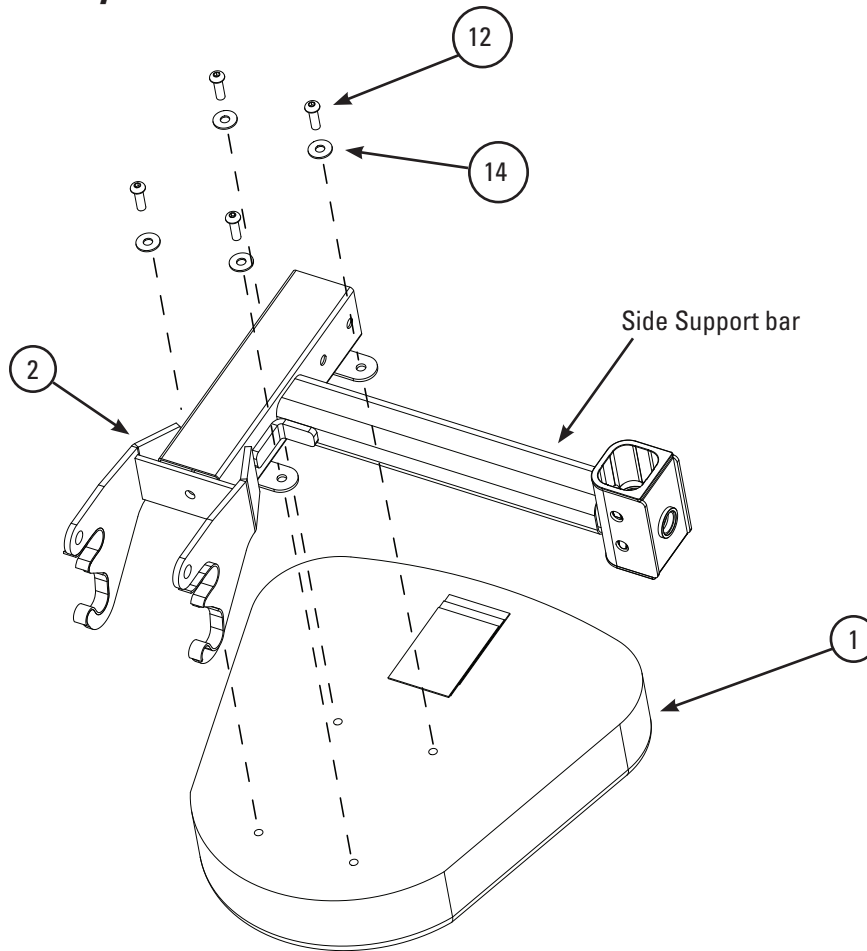

Figure 1
- 1-1 Lay the Seat Bottom (1) on the floor, seat cushion down, with the narrow back of the seat toward you.
- 1-2 Position the Side Support (2) so that the bracket is toward the back of the Seat Bottom and the Side Support bar extends to the right side.
- 1-3 Attach the Side Support (2) to the Seat Bottom (1) using the hardware shown. See **Figure 1**.